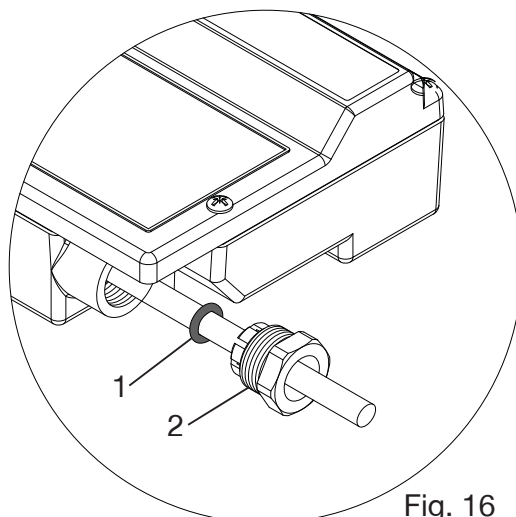

Fig. 16
To enable correct assembly of the cable gland the 'O'-ring (Fig. 16 item 1) must be placed over the cable before the clamping insert (Fig. 16 item 2) can be tightened.